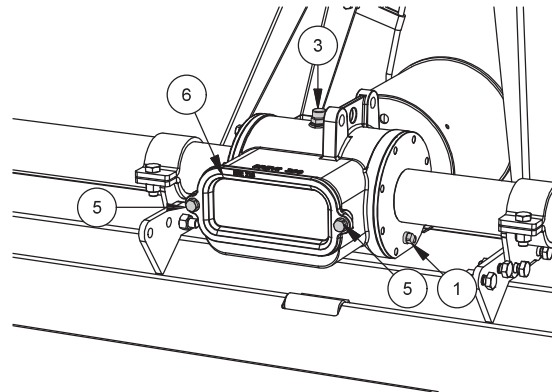

FIG. 31
- Loosen screws (5, "Fig. 31"). Remove the cap (6).
- Fit back the cap (6). Tighten bolts and nuts.